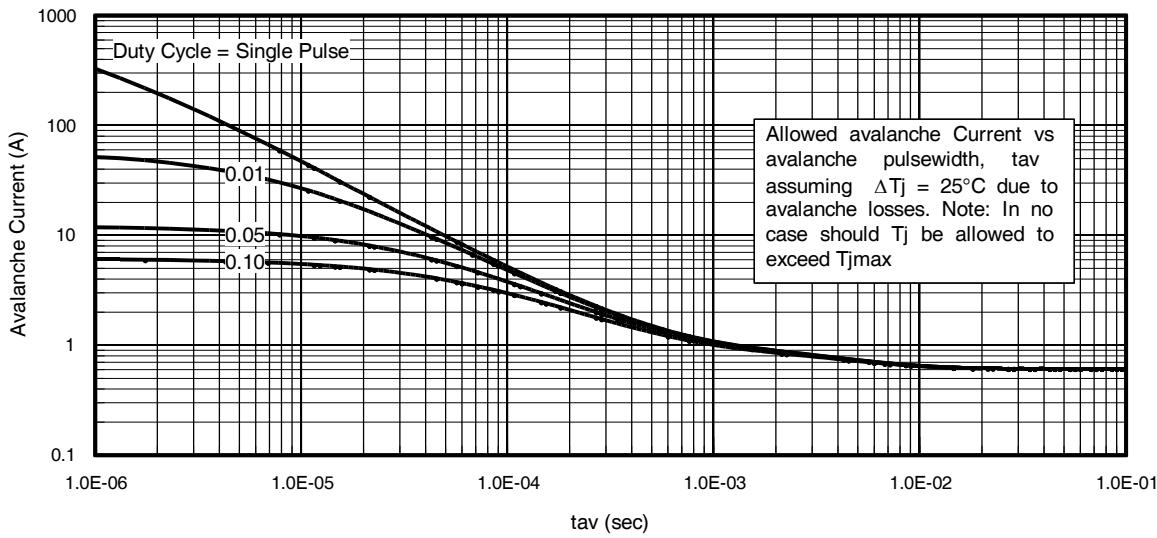

Fig 15. Typical Avalanche Current Vs. Pulse width
Notes on Repetitive Avalanche Curves , Figures 15, 16:
7. ΔT = Allowable rise in junction temperature, not to exceed $T_{j\max}$ (assumed as 25°C in Figure 15, 16).